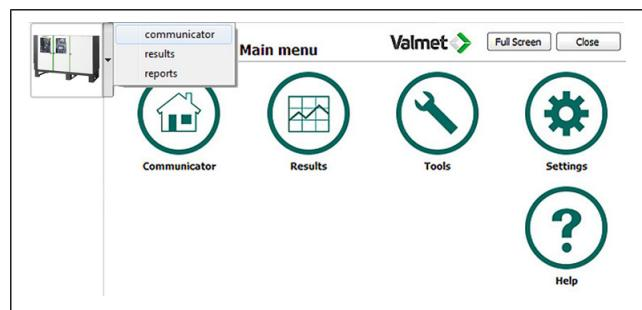

Fig. 3. Opening the operating displays.
The analyzer measures pulp kappa number and brightness using an optical measurement principle (Fig. 3). The sample flows through a measuring cell that is illuminated with a Xenon lamp. Detectors (1) measure the scattering and absorption of light in the sample at different wavelengths.
Fig. 3. Kappa and Brightness measuring cells, seen from the front side. 1 - detectors, 2 - Kappa measurement 3 - Brightness measurement, 4 - LC100 consistency transmitter.
The display images in this manual are views from the analyzer software. To view the displays, first select the device from the menu on the left and then use operating buttons on the display. If necessary, select "communicator" from the menu (Fig. 3).